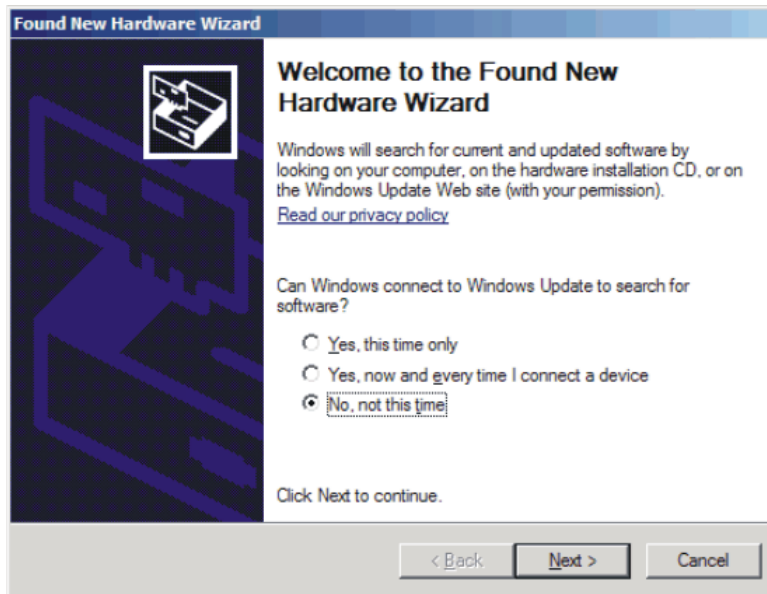
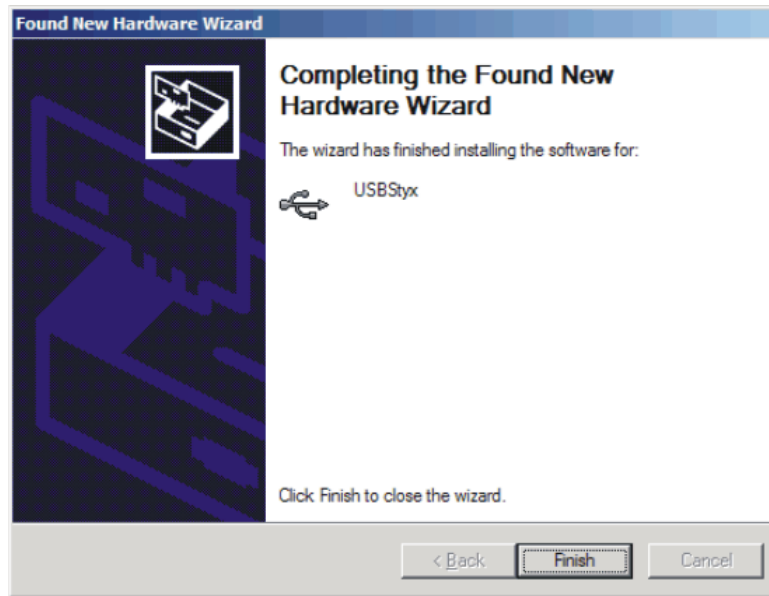

Figure 23. Install New Driver Wizard Screen 1
Figure 27. Install New Driver Wizard Screen 5
4. If you have not yet loaded the operating system drivers, Windows will display the *Windows Install New Driver Wizard* sequence (illustrated in Figure 23 through Figure 27). Accept the default settings.